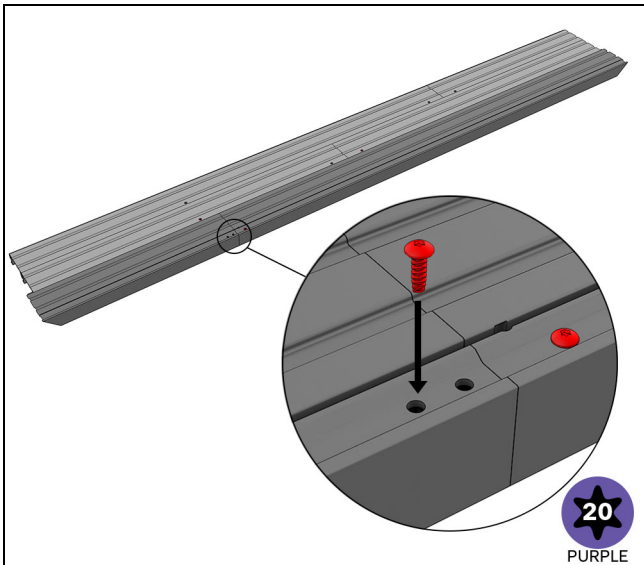

Figure 35
6. Fasten the head jamb splice key with #8 x 1/2" (13) screws. See Figure 35.